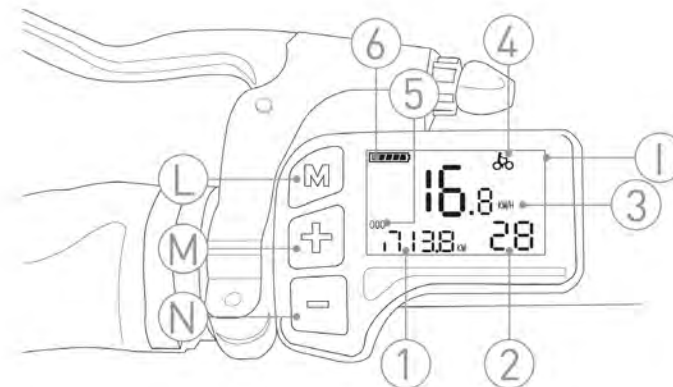

FIG. 6
The assistance system is controlled by the controller on the handlebar, near the left grip. In particular, assistance is activated or deactivated using the "M" button (Ref. L - Figure 6). Once the system is activated, the management display itself (Ref. I - Figure 6) is switched on, through which it is possible to see the activity status of the vehicle. The power of the engine depends on the force impressed on the pedals, according to a multiplication factor based on the level of assistance selected. Assistance decreases linearly until reaching 25 km / h. once this speed is exceeded, assistance is automatically deactivated.
To activate the aforementioned mode, turn on the assistance system using the appropriate "M" button (Ref. L - Figure 6). At this point, select an assistance level that is not the minimum and keep the "-" button pressed (Ref. N - Figure 6). Once the "-" button is released, assistance is automatically disabled.
- 1- Turn off the assistance system of the pedal-assisted bicycle using the appropriate button "M" (Ref. L - Figure 6);